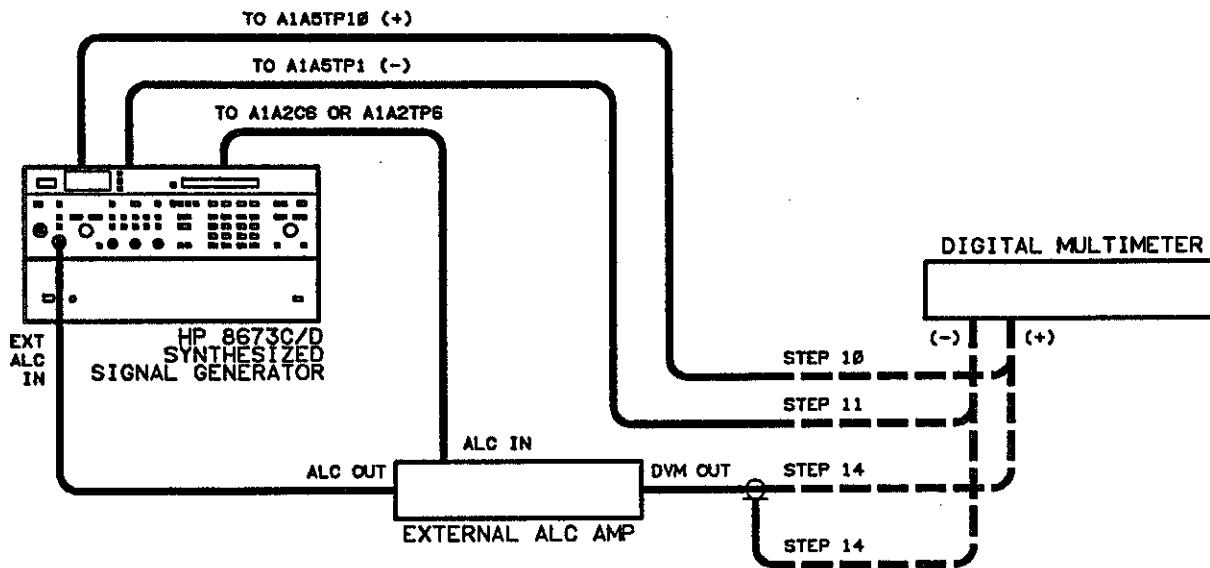

Figure 5-42. External System Mode ALC Adjustment Test Setup
7. Connect the equipment as shown in figure 5-42.